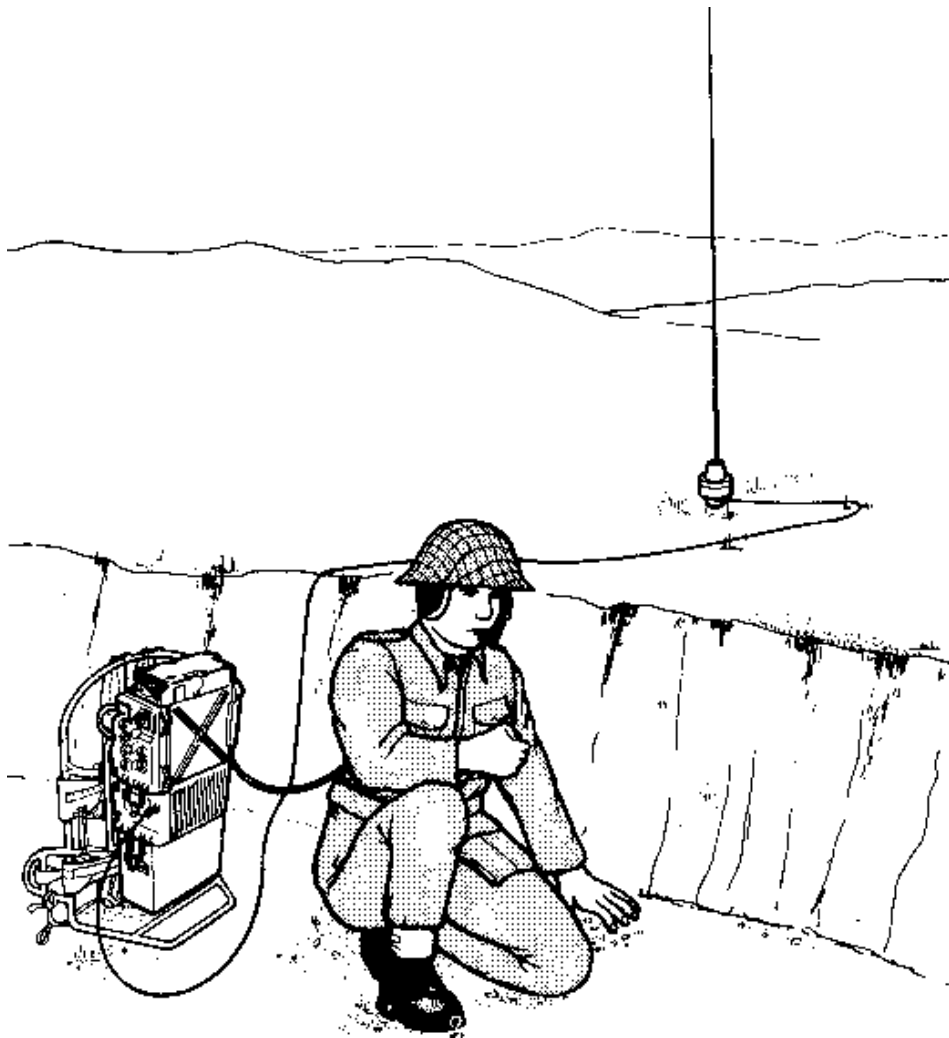

Fig.20 UK/PRC-352 used with Ground-Spike Antenna
- b. The antenna can be placed where it is relatively inconspicuous, whilst the radio can be operated from a sheltered position (Fig.20, below). This facility has advantages over the 'audio extension' facility in so far that switching and limited frequency control of the radio may be carried out without the User leaving protective shelter.